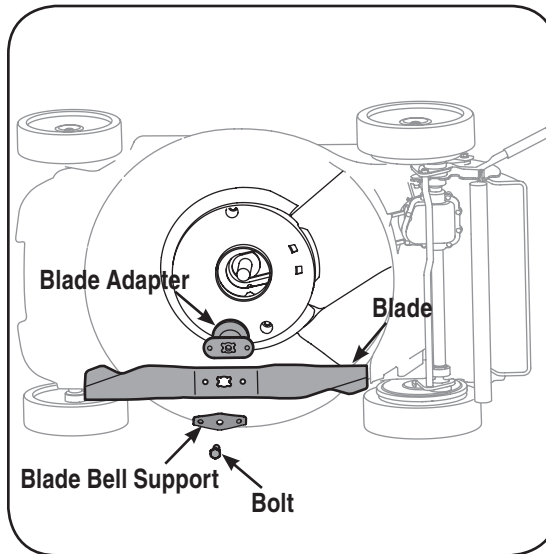

Figure 5-3: Remove the bolt and blade bell support to access the blade.
2. Remove the bolt and the blade bell support which hold the blade and the blade adapter to the engine crankshaft. See Figure 5-3.
3. Remove blade and adapter from the crankshaft. See Figure 5-3.
4. Remove blade, adapter, and related hardware as instructed under "Blade Care" above. See Figure 5-3.